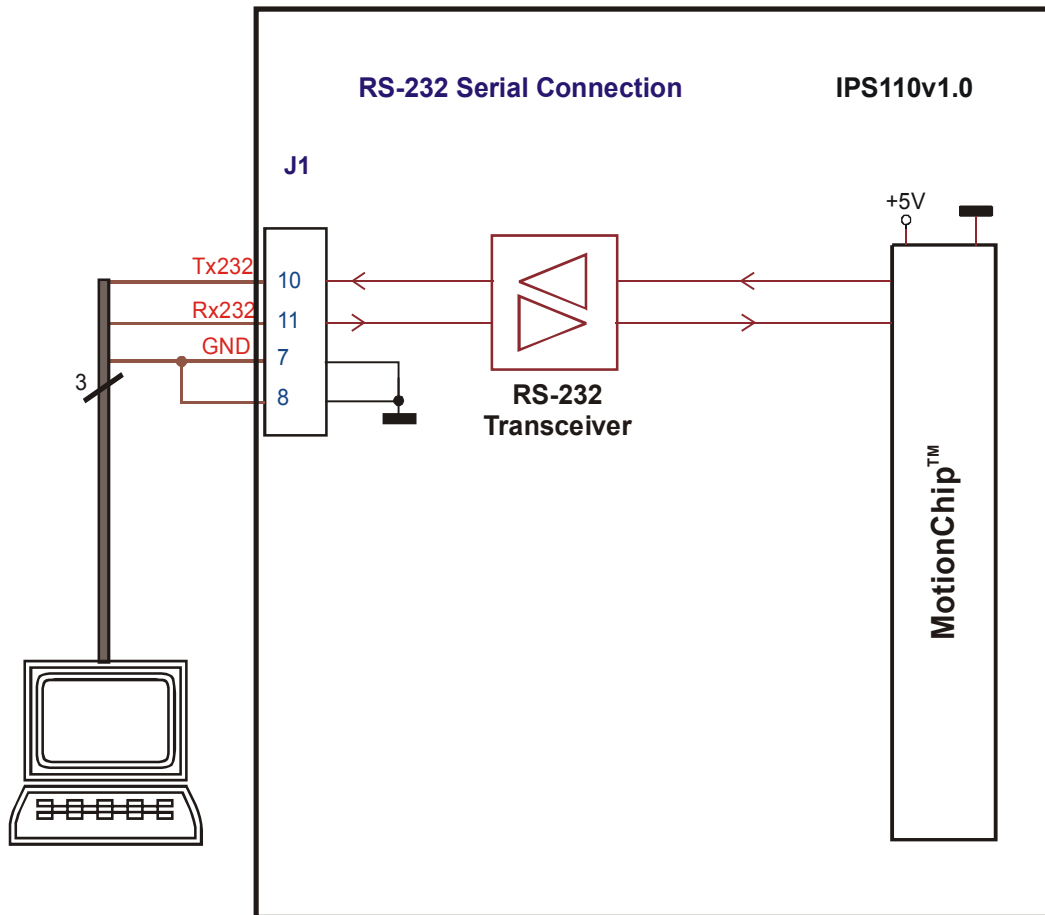

Figure 3. RS-232 connection diagram
2. Connect the IPS110 drive to the PC computer as you can see in the Figure 3.